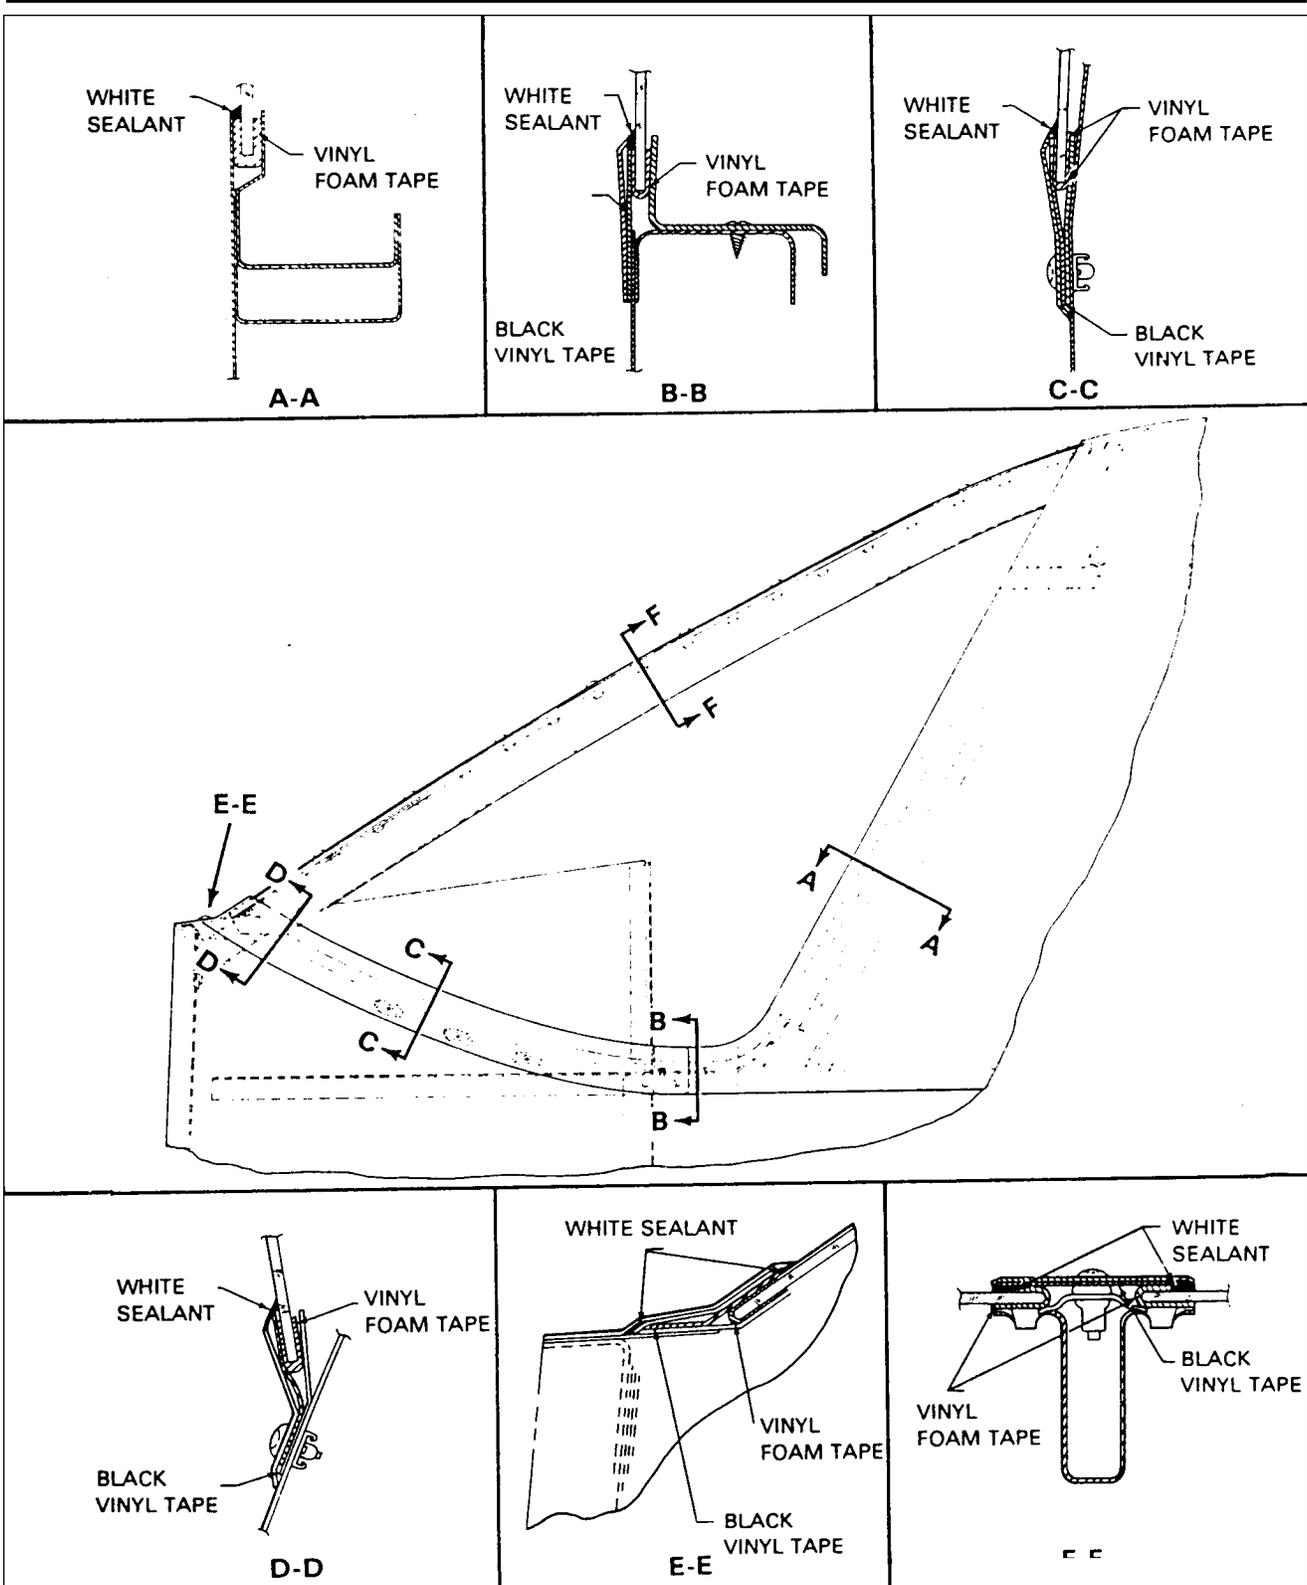

Figure 56-1. Windshield Installation (Typical)
**INSTALLATION OF WINDSHIELD (figure 56-1)**